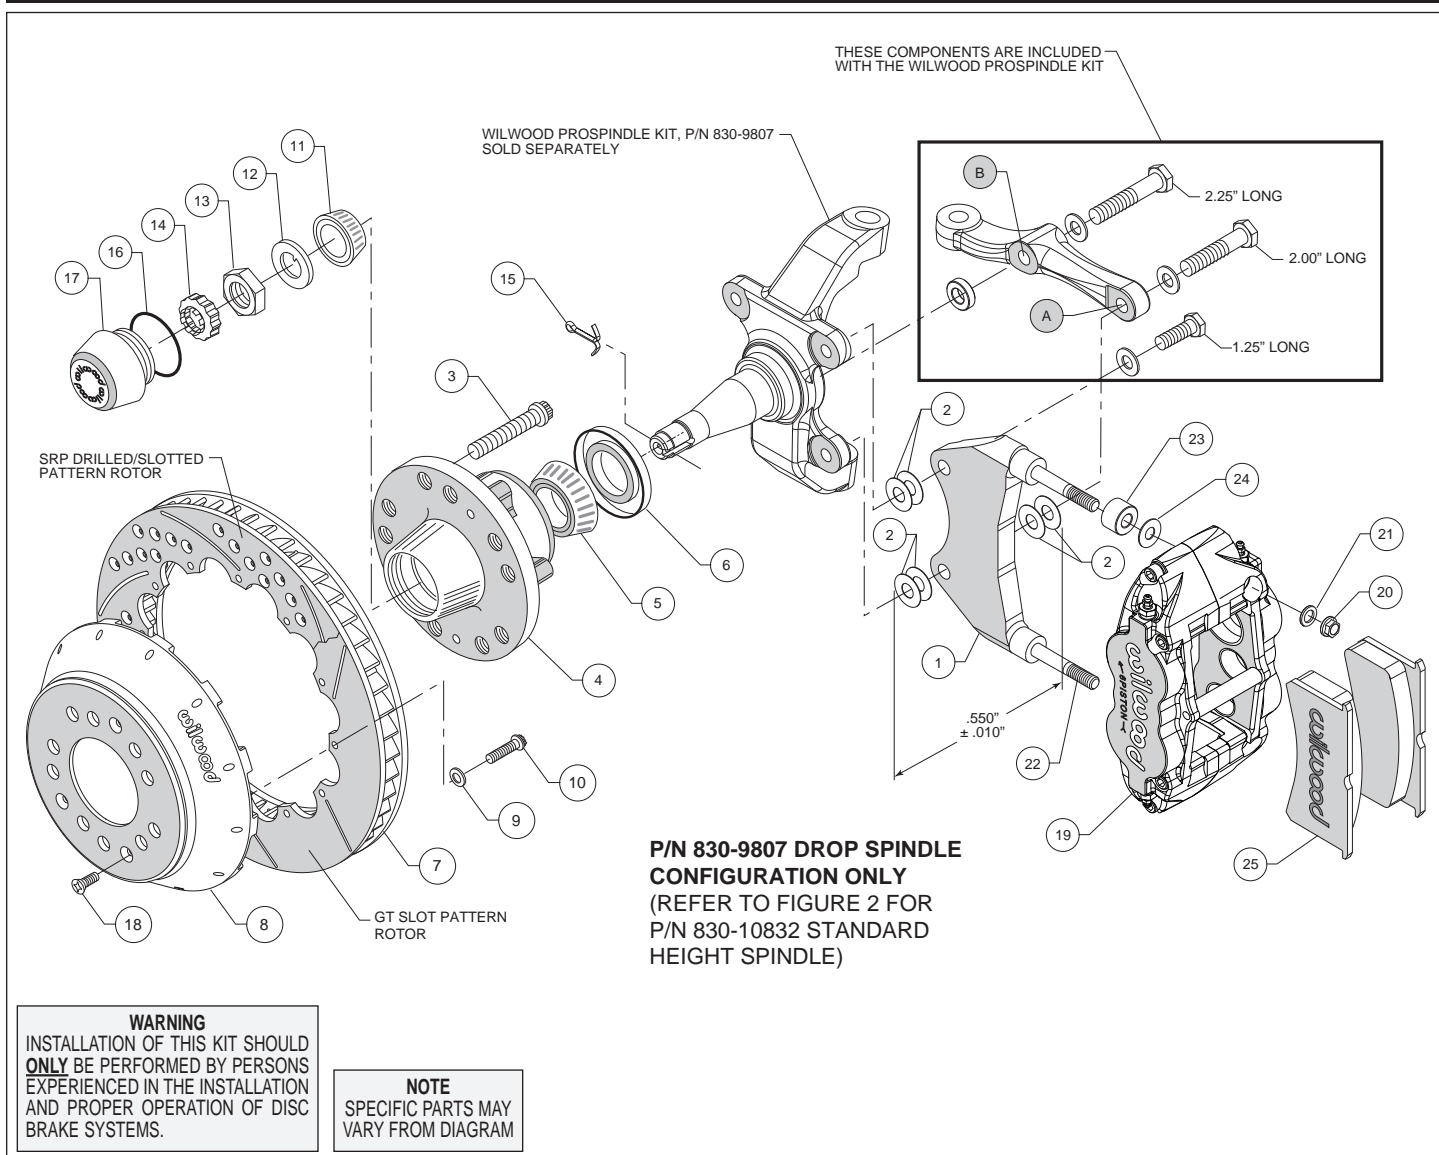
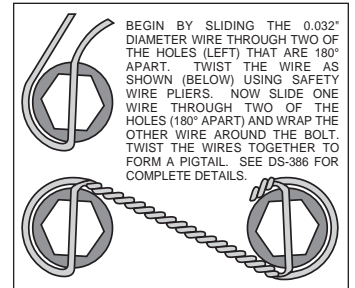

Figure 1. Installation Configuration For Drop Spindle, P/N 830-9807
Figure 4. Safety Wire Diagram
**Assembly Instructions** (numbers in parenthesis refer to the parts list and Figures 1 or 2 on the preceding pages):
- NOTE:** Each Wilwood ProSpindle kit includes bolts, washers, and a spacer to mount the steering arm and caliper bracket. The various bolts are identified by length in the following instructions and in Figures 1 and 2.
**For 2" Drop ProSpindle (P/N 830-9807):** The caliper bracket assembly (1) should initially be installed with clean, dry threads on the mounting bolts.
- Orient the bracket as shown in Figure 1 and Photo 1. Install at top spindle hole using 1.25" long bolt and .06" thick washer (from ProSpindle kit), and two .016" thick shims (2) between the bracket and spindle, Figure 1.
- Orient the steering arm, and identify the hole marked 'A', as shown in Figure 1. Install at bottom spindle hole using 2.00" long bolt and .06" thick washer (from ProSpindle kit), two .016" thick shims (2) between the bracket and steering arm, and another two .016" thick shims (2) between the bracket and spindle, Figure 1. The bracket is located between the steering arm and spindle. **NOTE:** The bracket and shim washers must add up to a total thickness of .550" ± .010", Figure 1.
- Finish attaching the steering arm through the hole marked 'B', as shown in Figure 1. Install using 2.25" long bolt, .06" thick washer, and .25" thick spacer (all from ProSpindle kit), Figure 1.
- Install the grease seal (6) by pressing into the backside of the hub (4), Photo 4.
- Orient the rotor (7) and the hat (8) as shown in Figures 1 or 2, and Photo 5. Attach rotor to hat using bolts (10) and washers (9). Using an alternating sequence, apply red *Loctite*® 271 to the threads, and torque to 155 **in-lbs**. For an added measure of security, the bolts may be safety wired using standard 0.032 inch diameter stainless steel safety wire as shown in Figure 4. Refer to Wilwood's data sheet DS-386 (available at [www.wilwood.com/Pdf/DataSheets/ds386.pdf](http://www.wilwood.com/Pdf/DataSheets/ds386.pdf)) for complete safety wire installation instructions.
- Screw dust cap (17) into hub (4), Photo 7. Friction created by the o-ring (16) on the dust cap keeps it from unscrewing.
- Slide the hat/rotor assembly (7/8) onto the hub (4) taking care to align the small countersunk holes in the hat with the small threaded holes in the hub. **NOTE:** The hat must fit flush against the hub face or excessive rotor run out may result. Install three flat head screws (18) through the small holes in the hat (8), Photo 7, and torque to 85 **in-lb**.
- NOTE:** This kit contains distinct right and left hand calipers that must be mounted in a specific direction, as described below. Lubricate the caliper mounting studs (22) with lightweight oil. Initially place one .035" thick shim (24), and spacer (23) on each stud as shown in Figure 1 or 2, and Photo 8. Mount the caliper (19) onto the bracket (1) using lock nuts (20) and washers (21), Figure 1 or 2. Ensure that the caliper is mounted so that the largest pistons are at the rotor exit end of the caliper, in relation to the direction of rotor rotation. Temporarily tighten the lock nuts and view the rotor through the top opening of the caliper. The rotor should be centered in the caliper, Photo 9. If not, proceed as follows:
- For the lower bracket mount bolt, if a shim was added between the bracket and spindle, then a shim must be removed between the steering arm and bracket, such that the total thickness of bracket and shims remain equal to  $.550 \pm .010$ ", Figure 1.